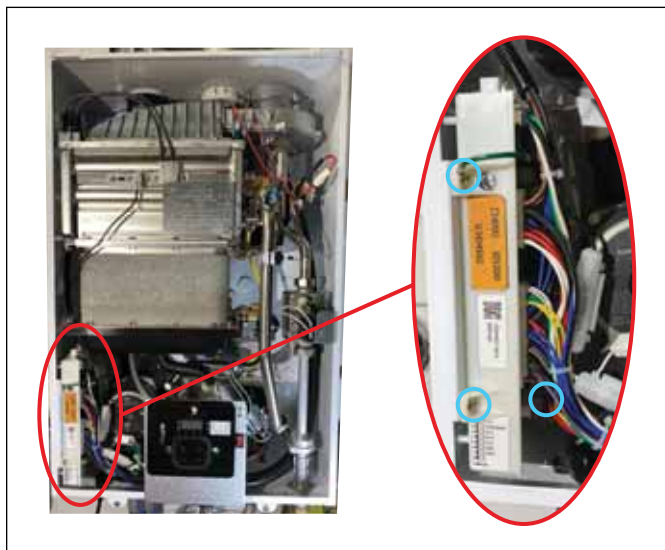

Figure 88
3. Loosen the 3 control board fixing screws (circled in blue) assembled to the chassis (Fig. 88).